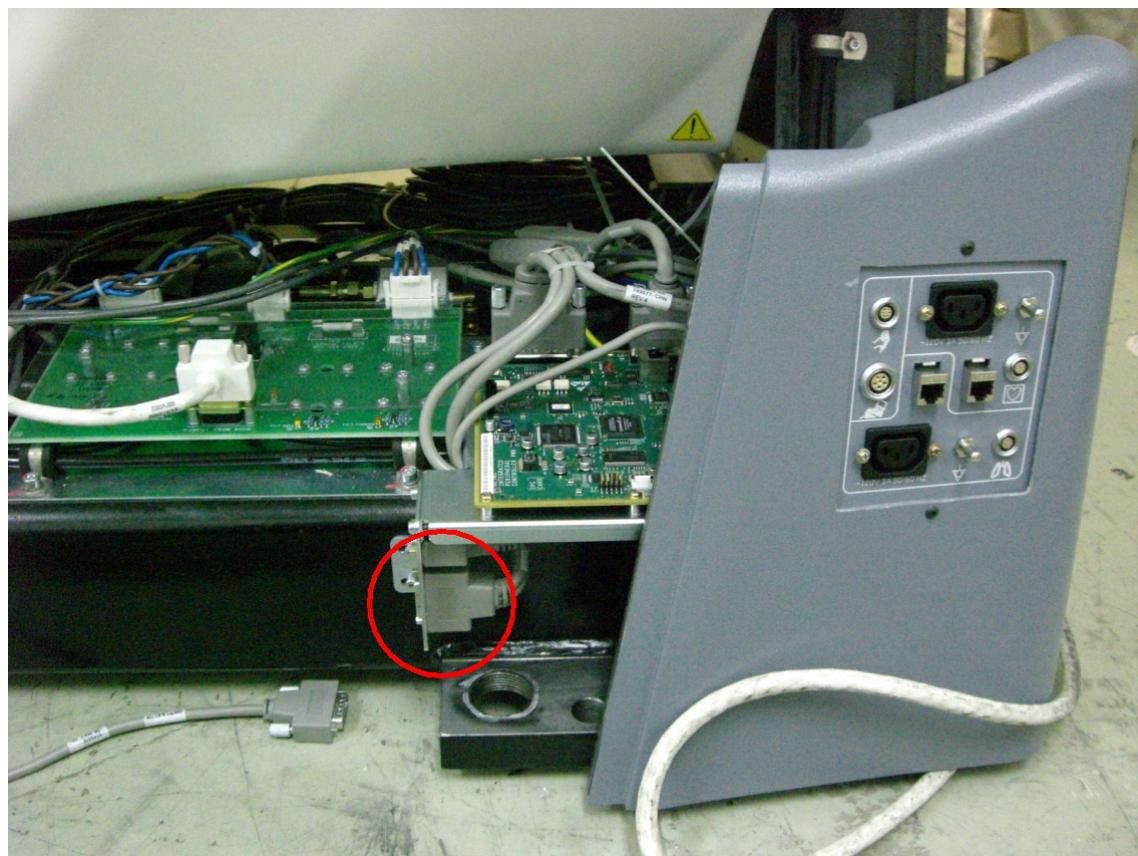

Figure 4-1 Sub D15 Connector
- 2.) Remove the right side cover by lifting it upward to release the two (2) latches, located on the top edge of the cover. Once removed, the Service Switch Panel should be exposed.
- 4.) If installed, remove both rear base covers, to gain access to Sub D15 connector on IPC Bracket, as shown in Figure 4-1.